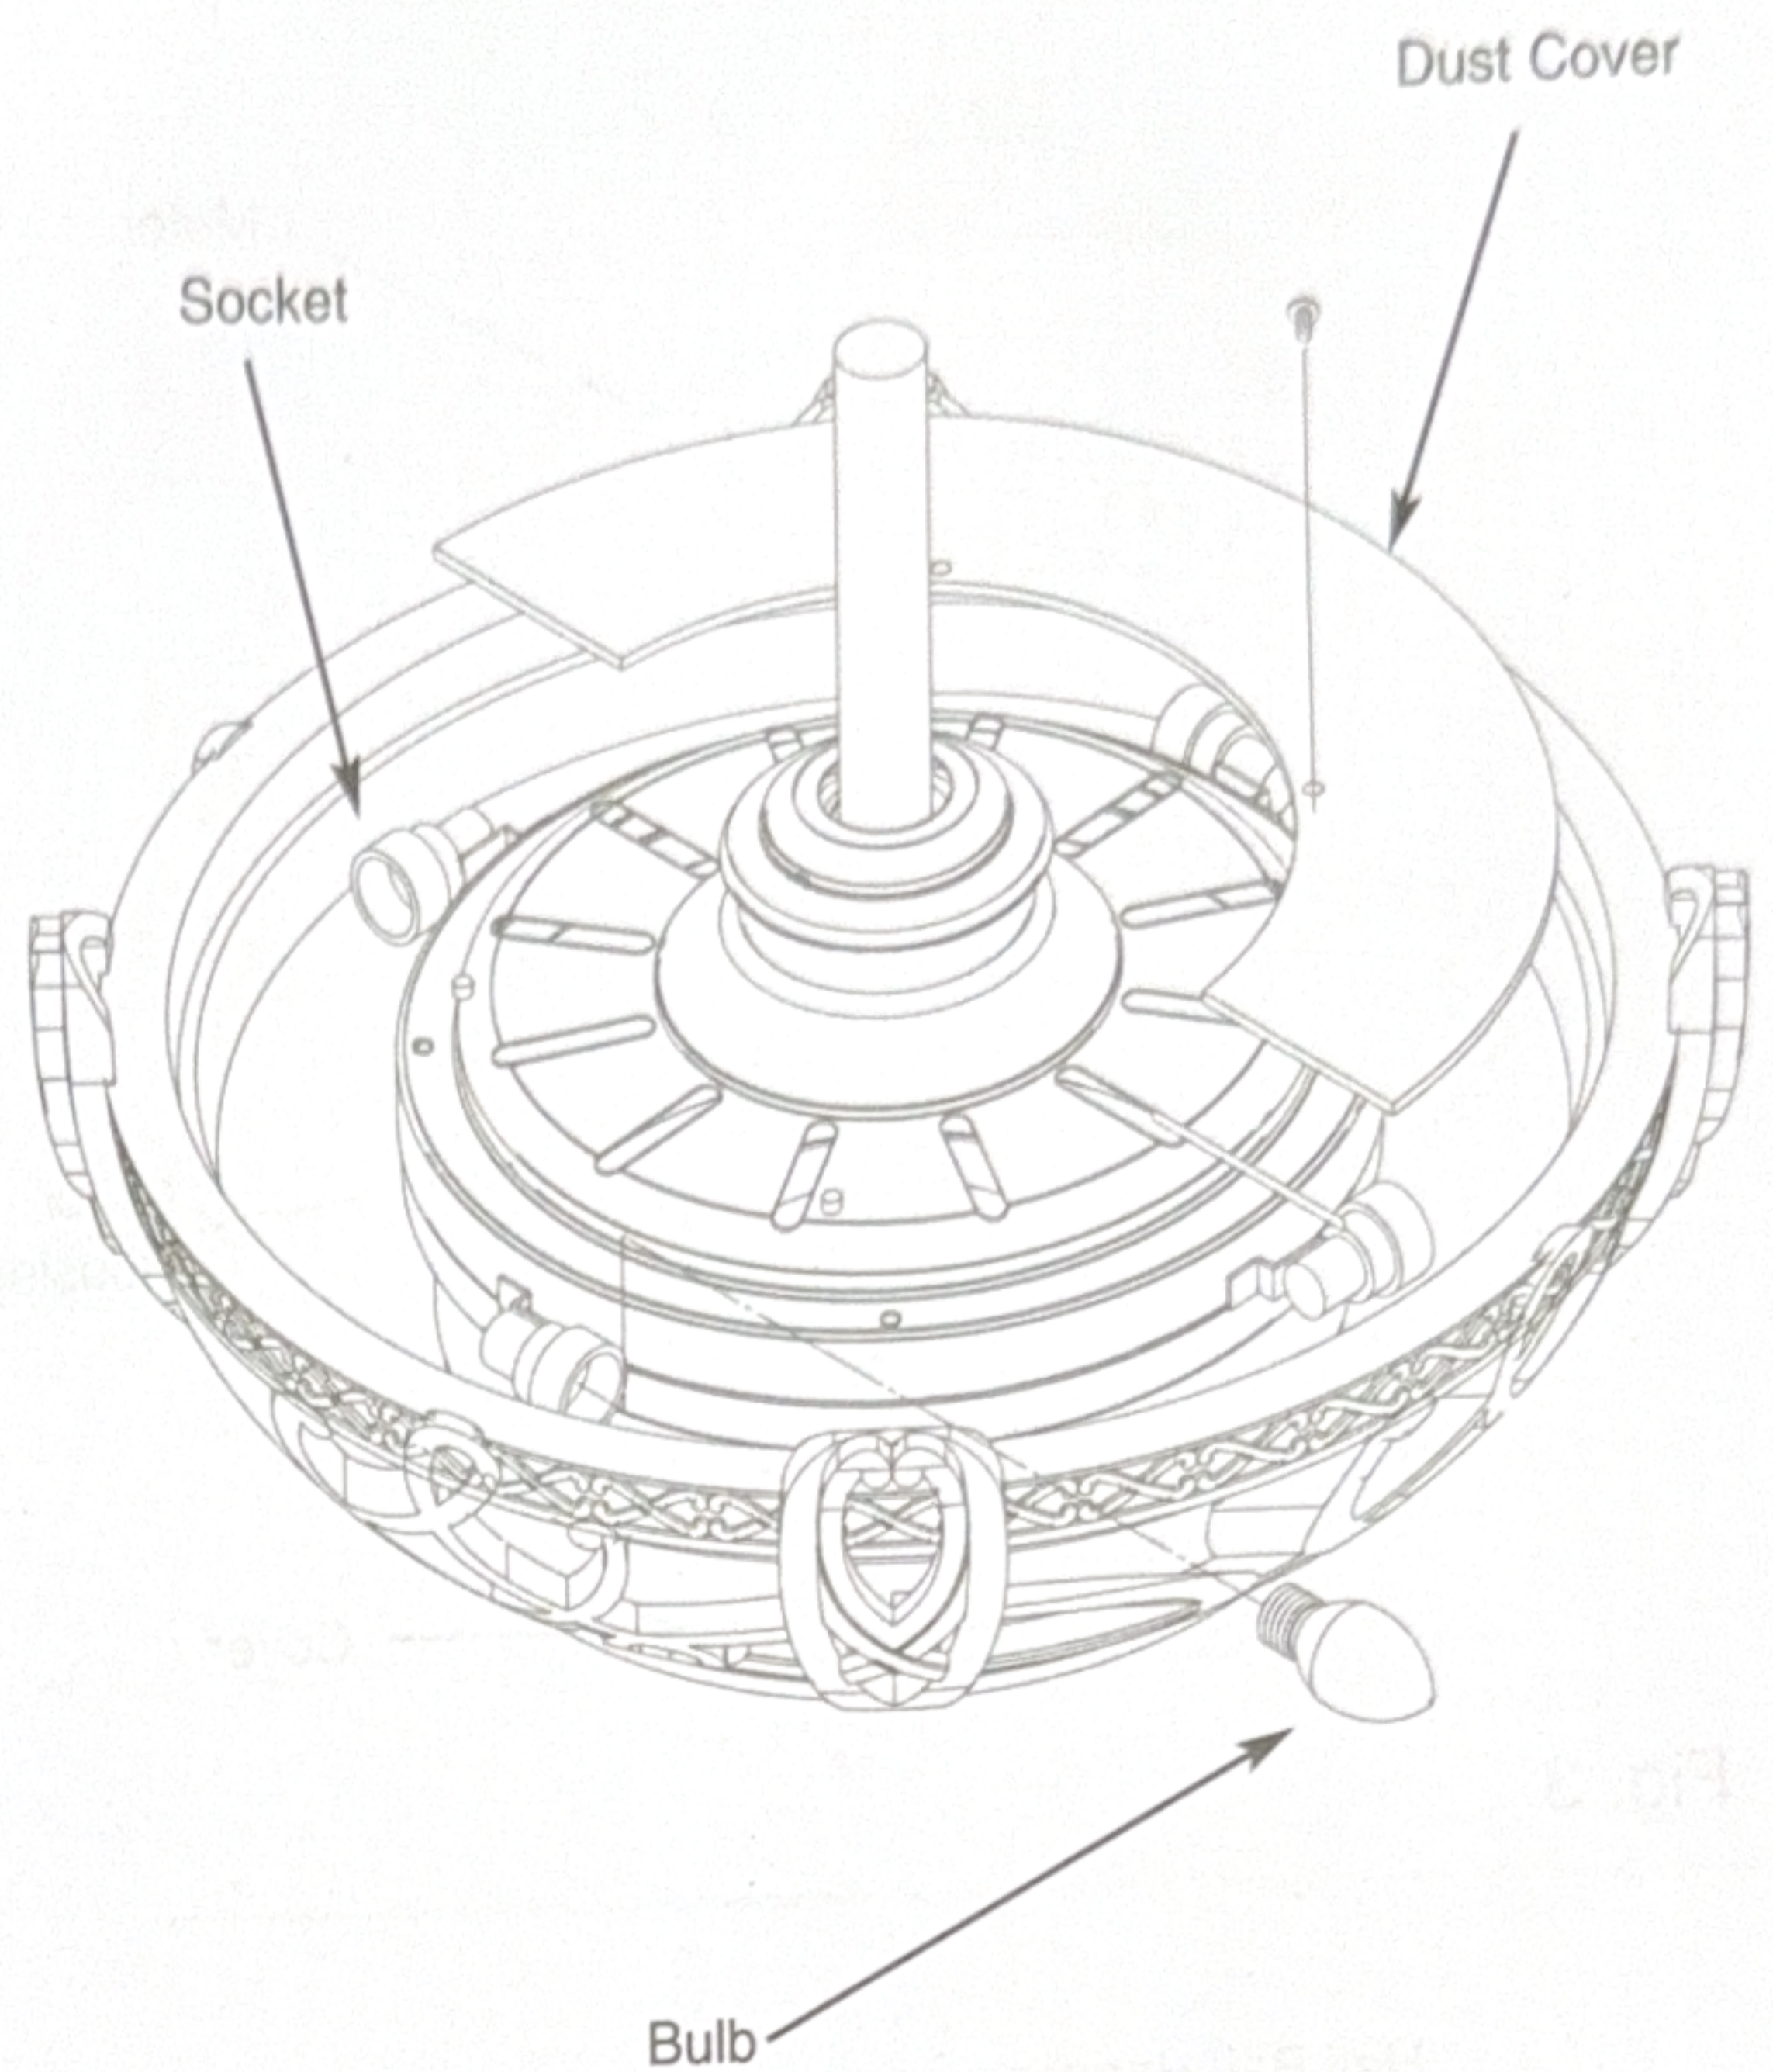

Fig. 5
Screw bulbs (4) -included with your fan- into the sockets located in the top of the fan motor housing (see figure 5).